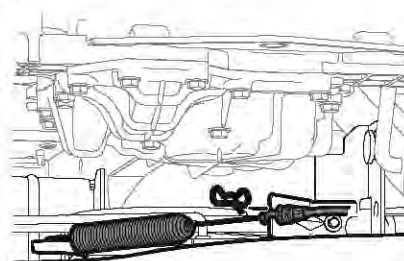

Figure 41
7. Remove the bow tie clip that secures the PTO cable to the bracket on the deck, slide the PTO cable out of the bracket and unhook the spring from the idler bracket. See Figure 41.